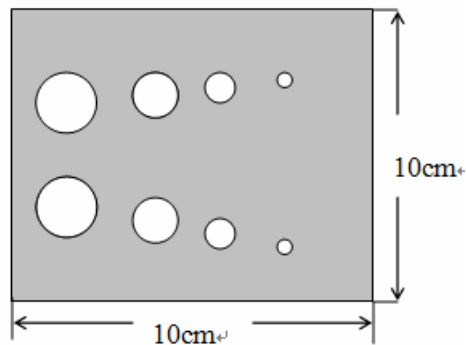

Figure 4: Test pattern for resin flow measurement
(1) Preparation of specimens
- a. With the release film intact, punch seven graduating holes (hole diameter:12.7 、 6.4 、 4.8 and 1.6mm) across the coverlay (see figure 4)